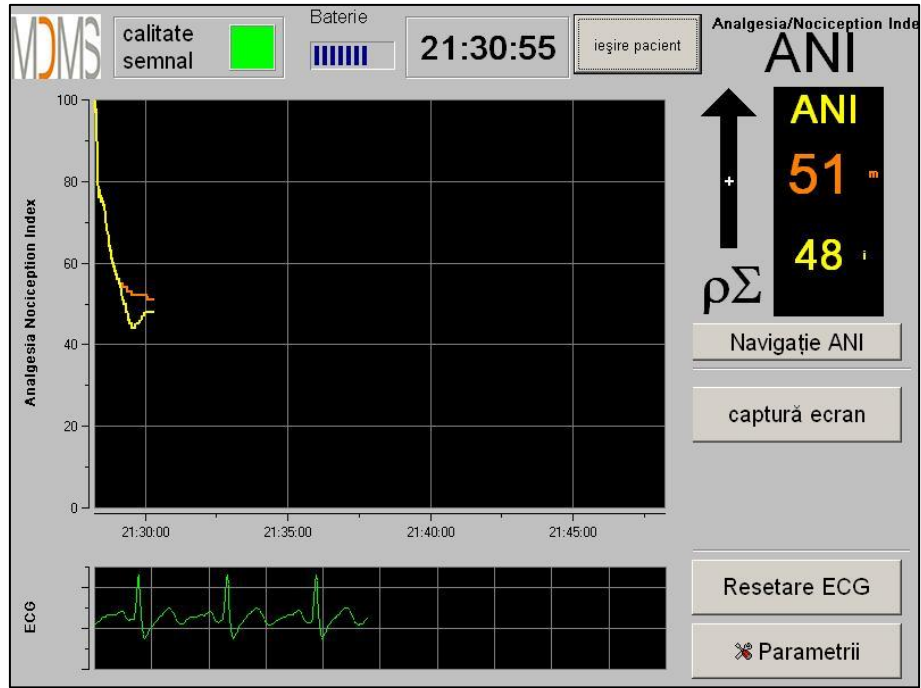

Figure 29
- **"Classic" mode** : no energy, no respiratory pattern (figure 29)